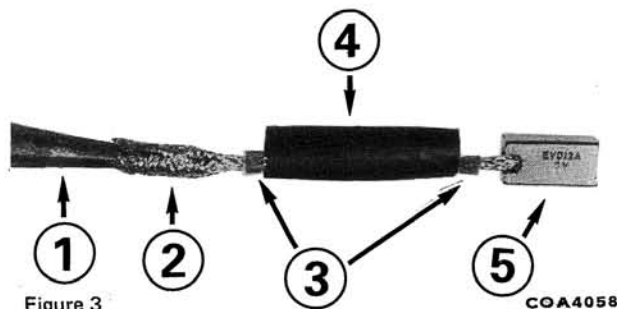

Figure 3
6. Spread brush end of lead open by holding loose end and about 1 inch (25 mm) up the lead. Push ends toward each other to spread the center open. Cut about 1/8 inch off the end of the wire and insert an awl or center punch to spread the wire. See Figure 3.